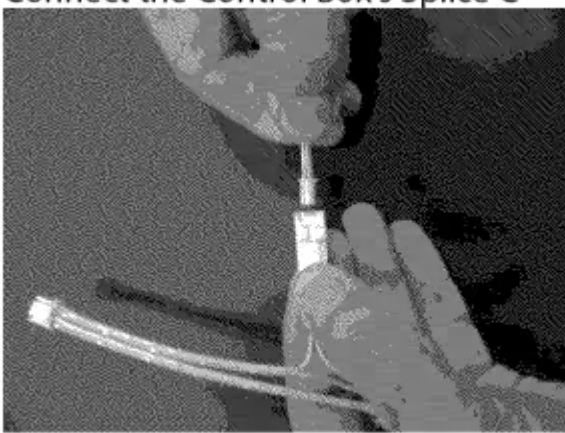

Fig 1
3. Connect the Control Box's Splice Connector to the mating connector on the Wire Harness (Fig 1).